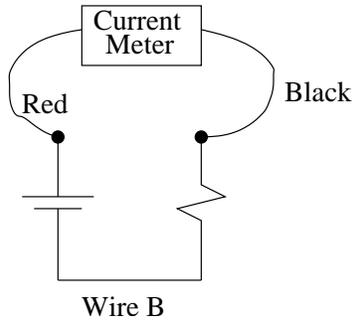

Figure 2: To measure the current through Wire A, *replace* Wire A with the current meter.
4. Now we will measure the current through Wire A. We do this by *replacing* Wire A with the current meter, as shown in Figure 2. Remove Wire A, connect the red lead of the current meter to the high potential side of the DC supply, and connect the black lead of the current meter to the resistor. The current meter is doing the job that Wire A did before, namely allowing current to flow from the DC supply to the resistor. The only difference is that the current meter is a “smart” wire that detects how much current is flowing through it.